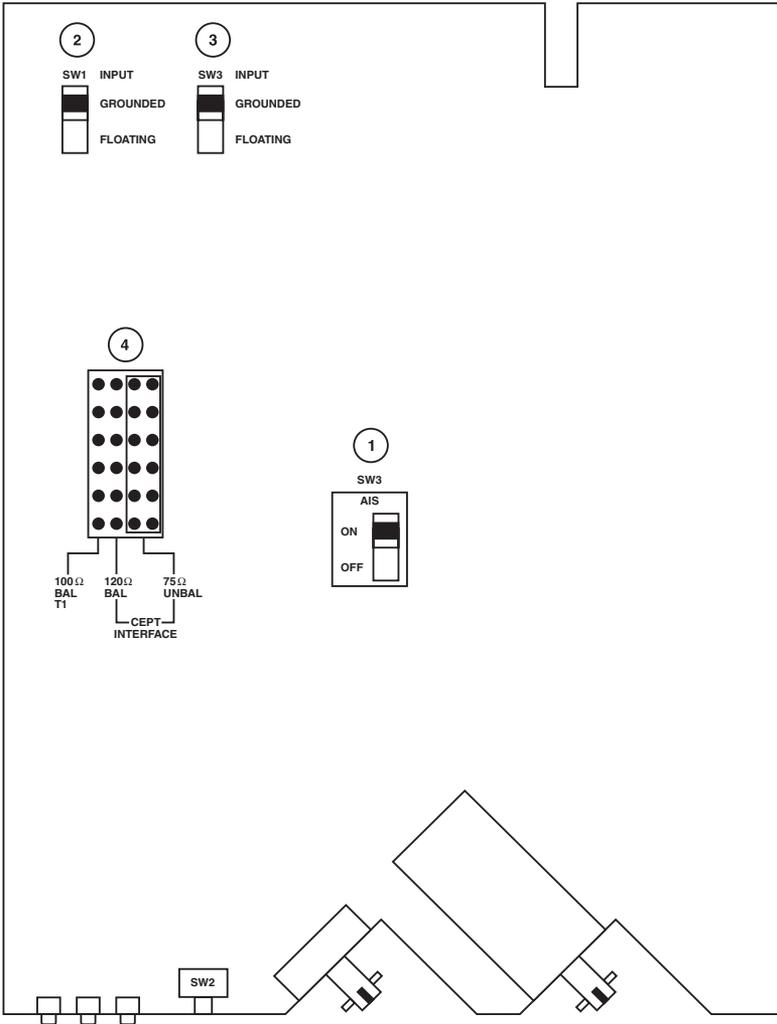

Figure 4-3. Locations of board-mounted controls.
To configure the FOLD Card, consult Figure 4-3 on the next page and **Sections 4.2.1** through **4.2.3** to identify the FOLD's board-mounted configuration controls and move them to your desired positions. (If the Card is installed in the RackNest 2/14, remove it by loosening the top and bottom screws and sliding it out of the Nest chassis.)
- ① See Section 4.2.1.
- ②, ③ See Section 4.2.2.
- ④ See Section 4.2.3.
When the AIS DIP switch SW3 (item 1 in Figure 4-3) is set to ON (the default setting), the FOLD sends an “all ones signal” (AIS) across the fiberoptic link if it detects either (a) low or no signal on its T1/E1 interface or (b) high error rates on its fiberoptic interface. This signal will cause the remote FOLD to light its OPTICAL AIS LED, alerting operators there of the problem at the other site. If you don’t want the FOLD to send this signal across the fiber link, move this switch to the OFF setting.
If you will be using the FOLD’s balanced T1 or E1 interface, keep Input and Output DIP switches SW1 and SW2 (items 2 and 3 in Figure 4-3) both set to their factory-default “Floating” setting. (In this setting, the shields of the IN and OUT BNC connectors on the rear panel are isolated from the FOLD’s chassis ground.) If you will be using the FOLD’s unbalanced E1 interface, move both of these switches to the “Grounded” setting to connect the BNC shields to the FOLD’s chassis ground.
Move the jumper on the interface-type jumper block (item 4 in Figure 4-3) as necessary to select one of the FOLD’s three interface options: